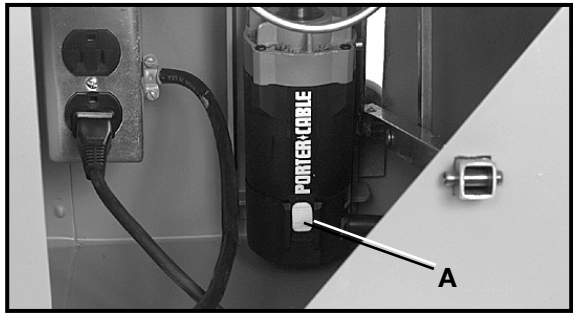

Fig. 11
4. Plug drill motor power cord into receptacle (see Fig. 11).
5. Move drill motor switch (A) Fig. 11, to the "ON" position.